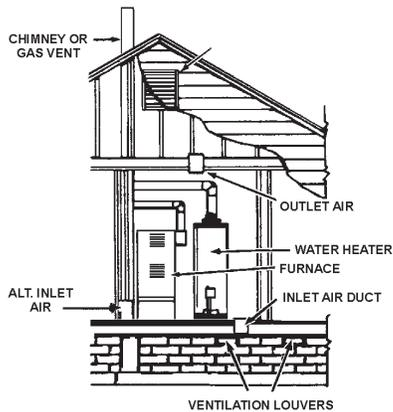

FIGURE 6.
**B. ALL AIR FROM OUTDOORS:** (See Figures 6, 7 and 8)
- When directly communicating with the outdoors, each opening shall have a minimum free area of 1 square inch per 4,000 Btu per hour (5.5 cm2/kW) of total input rating of all equipment in the enclosure, see Figure 6.